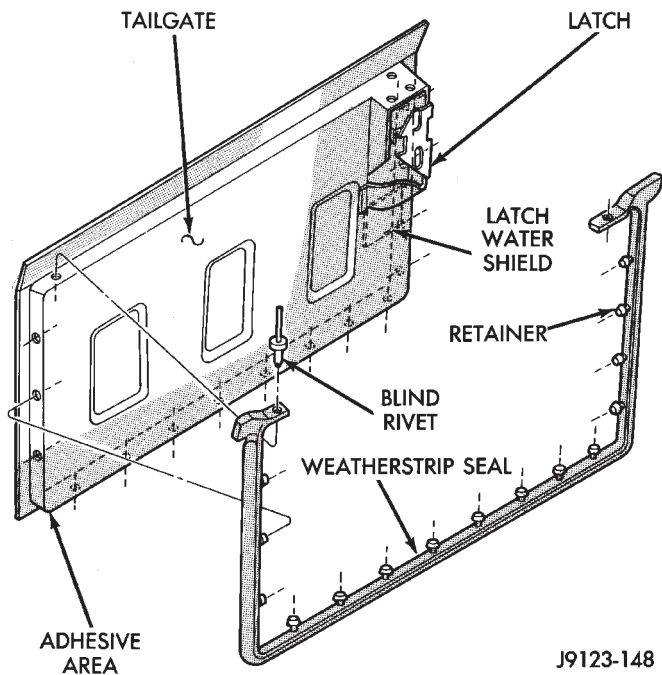

Fig. 87 Tailgate Weatherstrip Seal Removal/Installation
(1) Remove the seal retaining rivets (Fig. 87).
(2) Carefully separate the seal and the retainers from the tailgate edge (Fig. 87).
(3) If the original seal will be installed, clean it with a dampened cloth.
(4) Clean the seal contact surface on the tailgate (Fig. 87).
(5) Inspect the seal and retainers (Fig. 87). Replace the seal if damaged.
- (1) Apply weatherstrip adhesive around the perimeter of the seal contact surface on the tailgate edge (Fig. 87).
- (2) Position the seal on the tailgate and press it against the inner panel and flange.
- (3) Install the seal retaining rivets (Fig. 87).